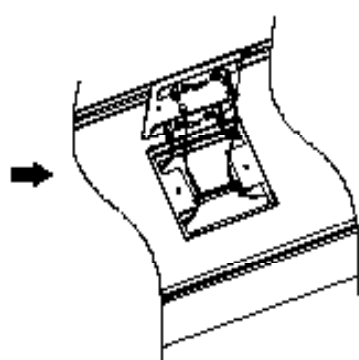

FIGURE 2
3. Place new panel into place. Reconnect wires by plugging wires onto panel (FIG. 2).